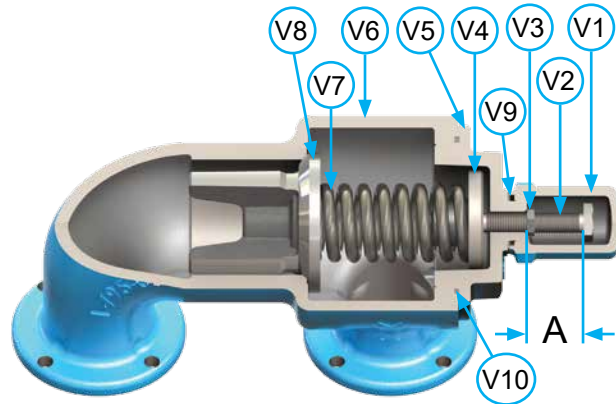

FIGURE 10
2. Measure and record the length of extension of the adjusting screw. Refer to "A" on **Figure 10**.